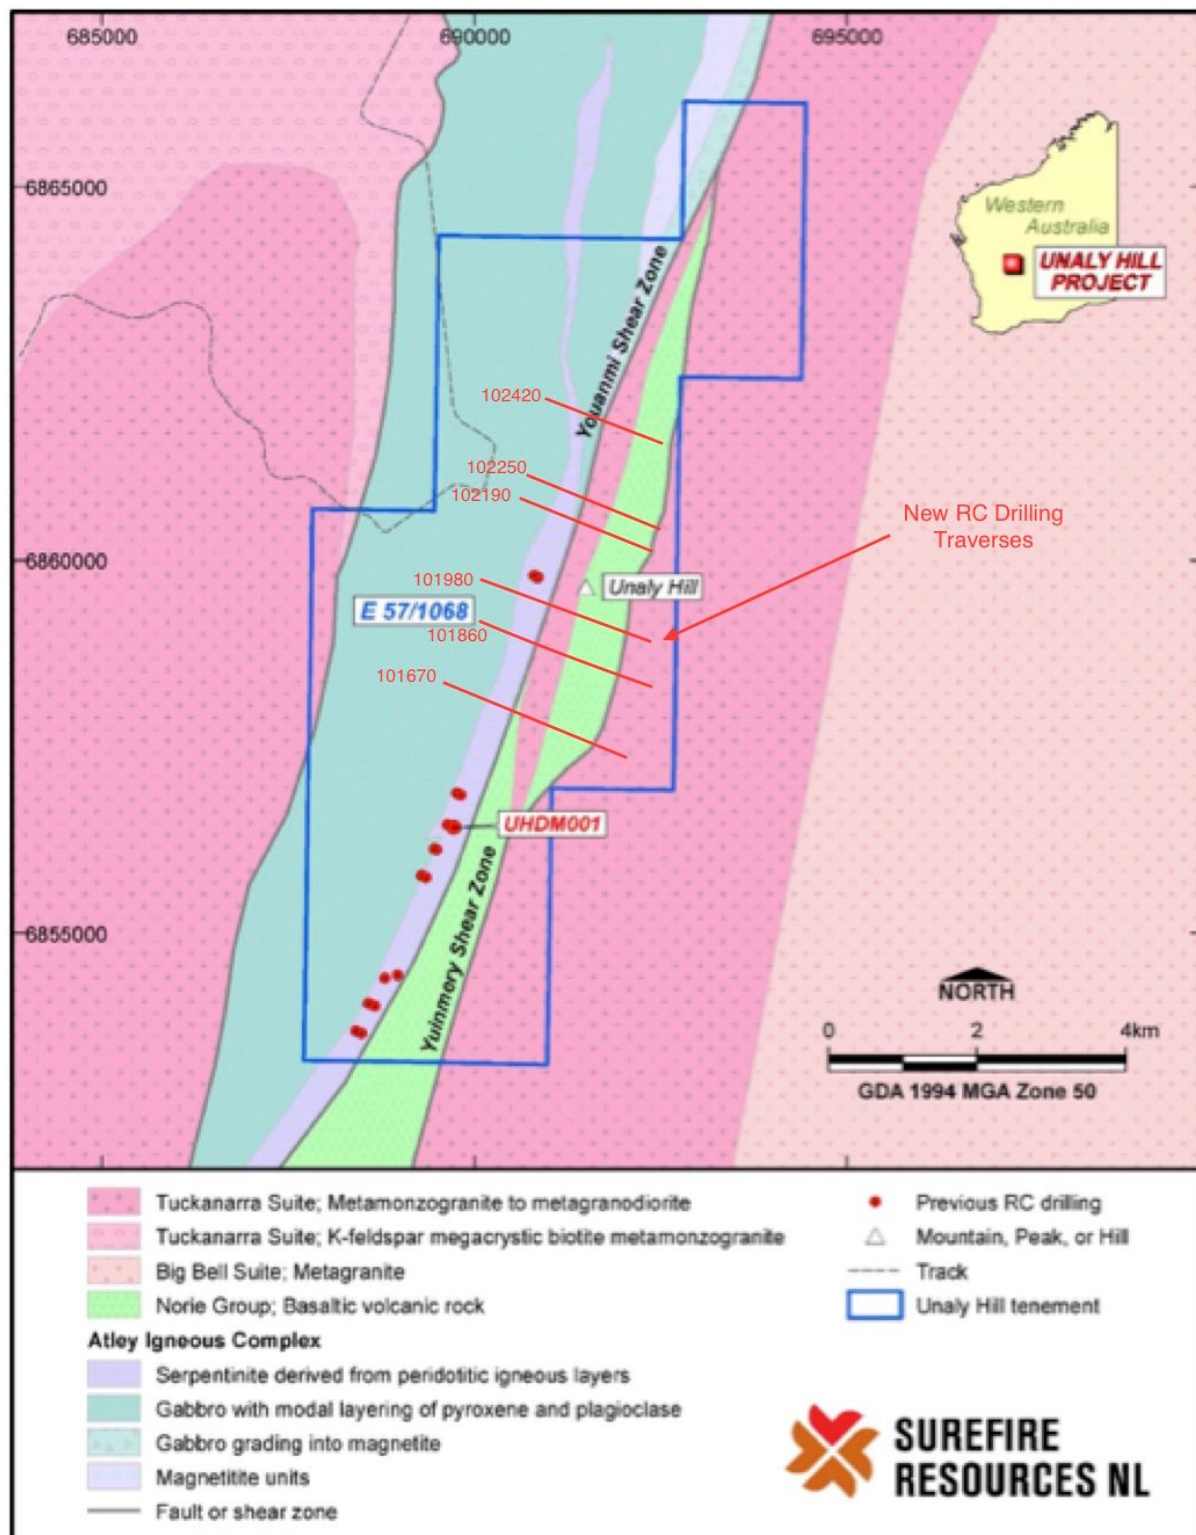

Figure 1
The 2018 RC drilling program was designed to extend the known mineral resource at Unaly Hill to the north along strike (Figure 1). A total of 10 reverse circulation (RC) drill holes were completed along six traverses for an aggregate of 1,258m. The programme was based on detailed 2D forward modeling of high resolution airborne magnetic data carried out by Southern Geoscience Consultants Pty Ltd (SGC) who were tasked with targeting extensions of the vanadium-titanium-magnetite mineralisation hosted within the Atley Layered Mafic Intrusion.